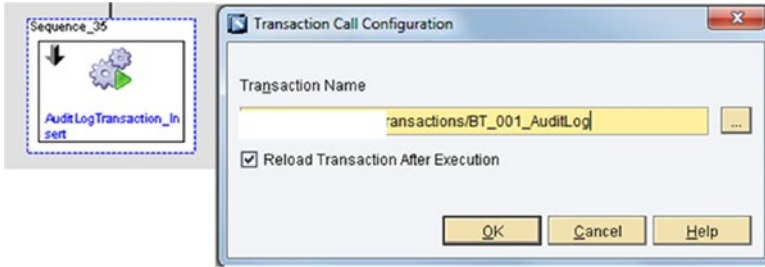

Figure 6-43. Transaction Call action block
- Transaction Call action block:** This is used to call and execute a predefined transaction that resides in the same MII server from another transaction. This action block allows you to create some reusable functionality in MII. See Figure 6-43.
The transaction that needs to be executed can be browsed and selected in the configuration screen for the field called Transaction Name or the entire transaction path can also be mapped in the link editor of this action block. To reload and refresh the transaction after each execution, check the box called Reload Transaction After Execution, as shown in Figure 6-43.